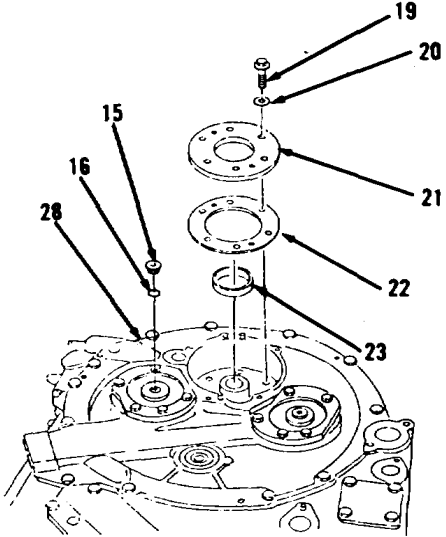

Figure 14-31.
- 67. Check end clearance in remaining set of items 84 thru 55 as an assembly. Repeat steps 62 thru 66.
- 68. Install two new preformed packings (16) and plugs (15, Figure 14-31).
- 69. Using dry ice, lower temperature of bearing cup (23).
- 70. Install bearing cup (23) in bearing cage (21).
- 71. Install shim pack (22).
- 72. Install bearing cage (21) on cover (28).
- 73. Install six washers (20) and bolts (19). Tighten six bolts (19) evenly.